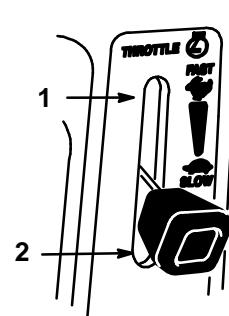

Figure 4
6. Move the throttle lever to "FAST" (Fig. 4).
8. After the engine starts, move the choke lever to "OFF" and slowly move the throttle lever to "FAST" (Fig. 4). If the engine stalls or hesitates, move the choke lever back to "ON" for a few seconds. Then move the throttle lever to "FAST." Repeat this as required.
1. Move the throttle lever to "SLOW" (Fig. 4).